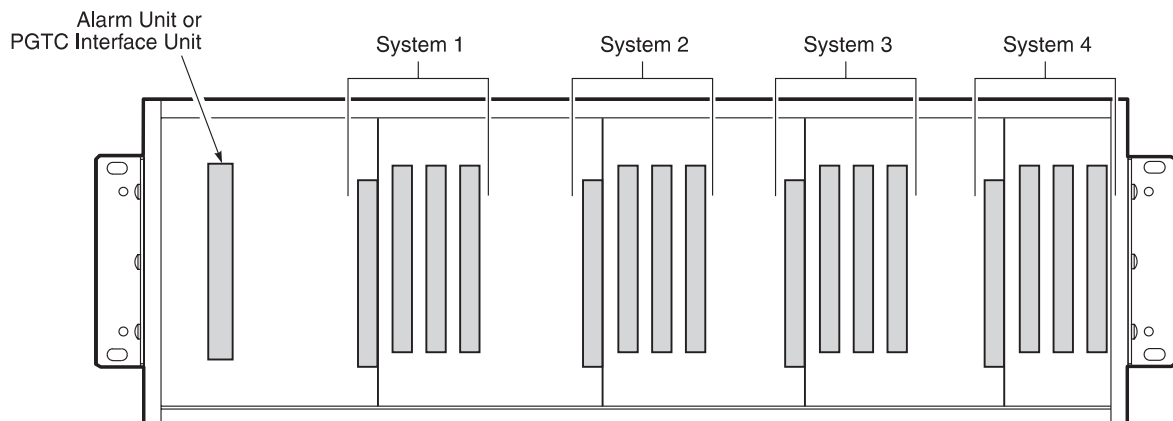

Figure 1. FCS-719 COT Shelf (Card-side, Front View)
1.1 The PairGain® PG-Flex™ FCS-719, List 2, 23-inch Central Office Terminal (COT) Shelf (Figure 1) supports: